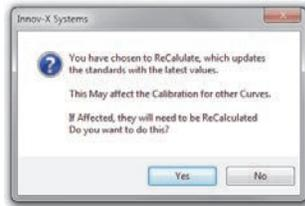

Figure 6-17 The ReCalculate dialog box
4. In the dialog box, click **Yes** (see Figure 6-17 on page 92).